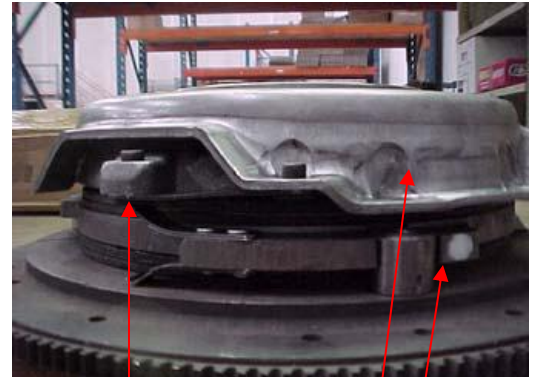

Fig.5
5. Line up the Balance Mark and position the Pressure Plates and Cover Assembly over the adaptors (Fig 5).